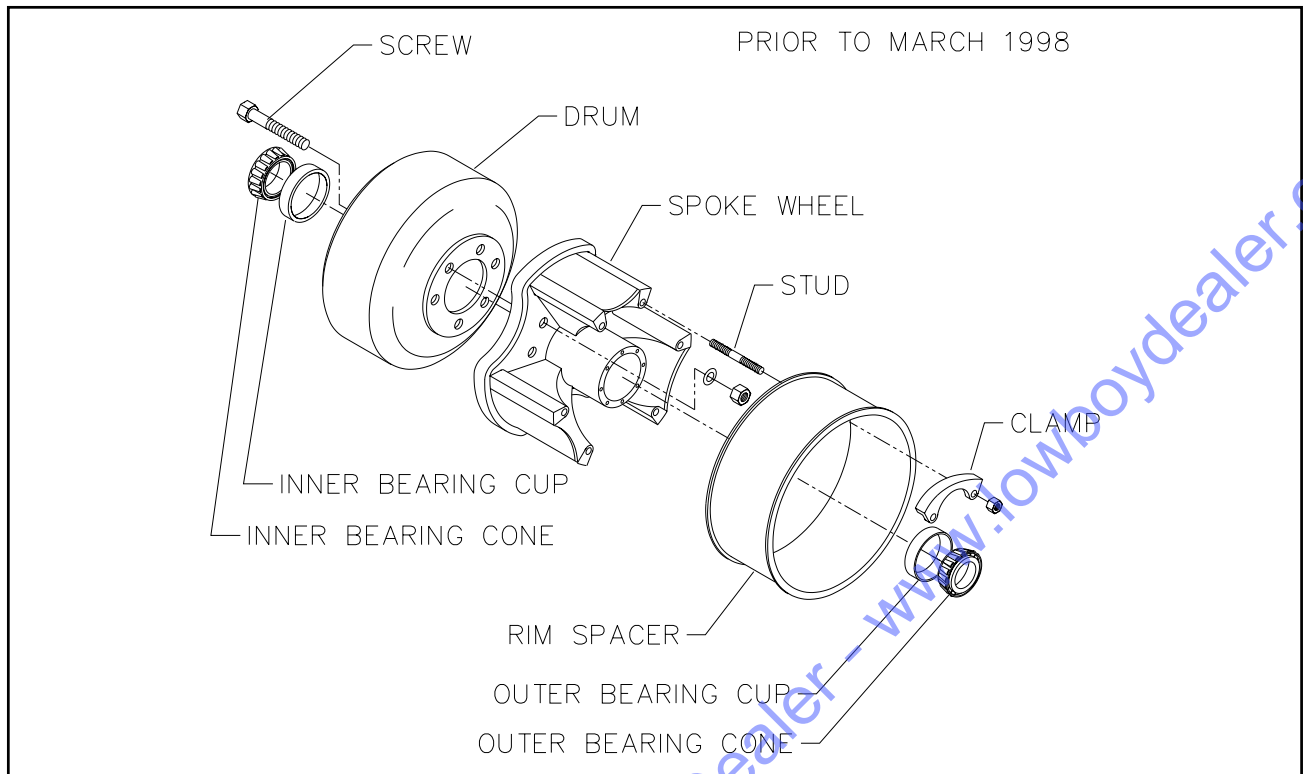
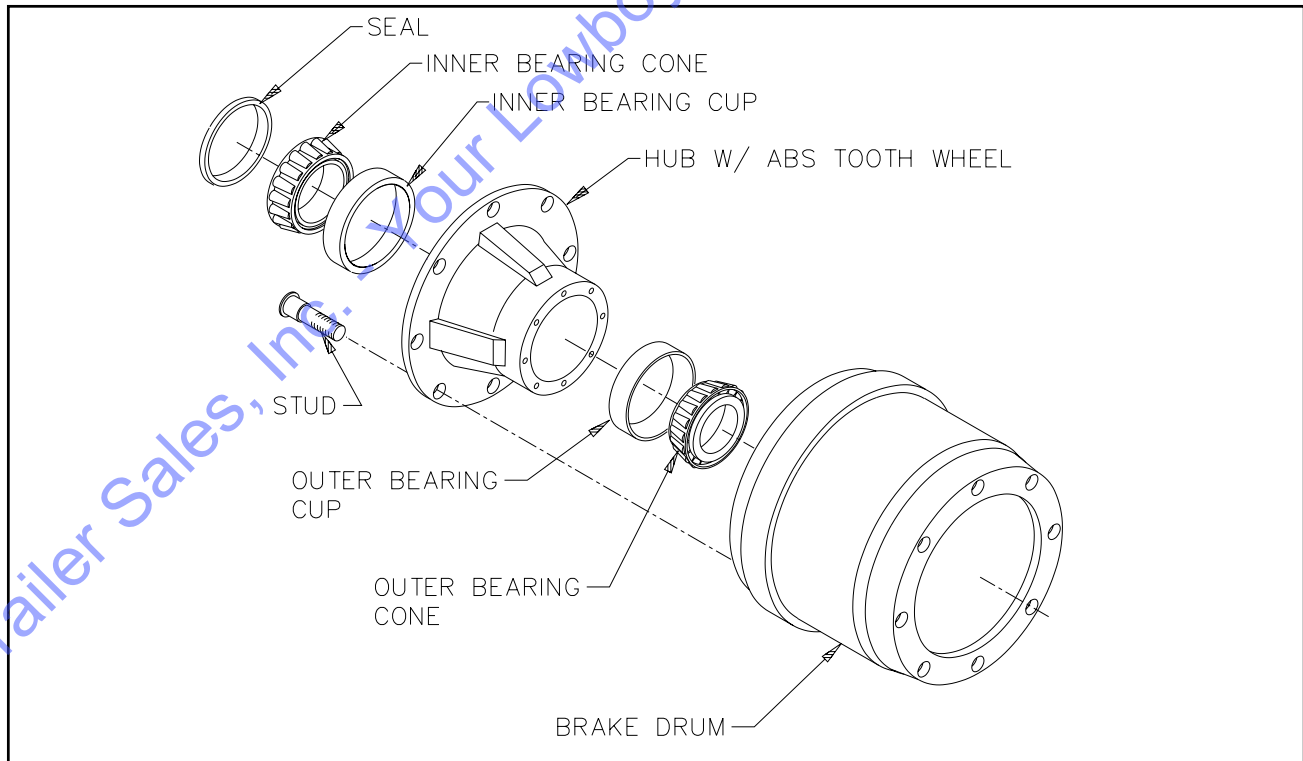
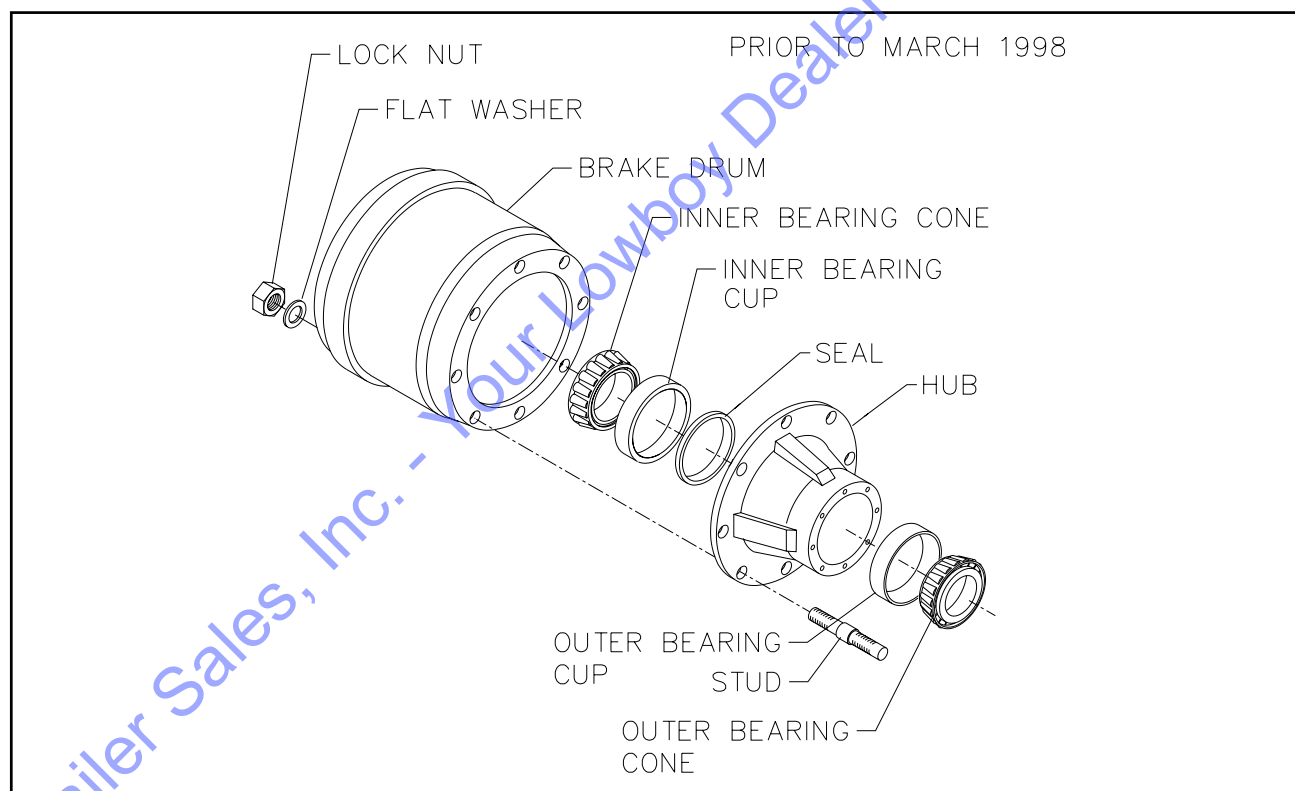

Figure 4-13 Three Spoke Wheel and Drum
Figure 4-14 Outboard Mount Hub and Drum
Figure 4-15 Inboard Mount Hub and Drum
4-9.4 Replace the hub and drum as follows (See Figures 4-13, 4-14, and 4-15):
- a. For outboard mount hub and drum remove the brake drum (See Figure 4-14). It may be necessary to release the slack adjuster. For inboard mount (See Figure 4-15) and spoke wheel (See Figure 4-13) remove drum after hub.
- s. For Outboard Mounted Brake Drum (See Figure 4-14) place the drum over the hub and brake shoes being careful not to damage the threads on the studs. Make sure the drum seats flat against the hub flange and mates properly with the hub pilot. There should be no interference between the brake drum pilot chamfer and the corner radius on the hub. If interference exists, the hub will not be able to function properly.